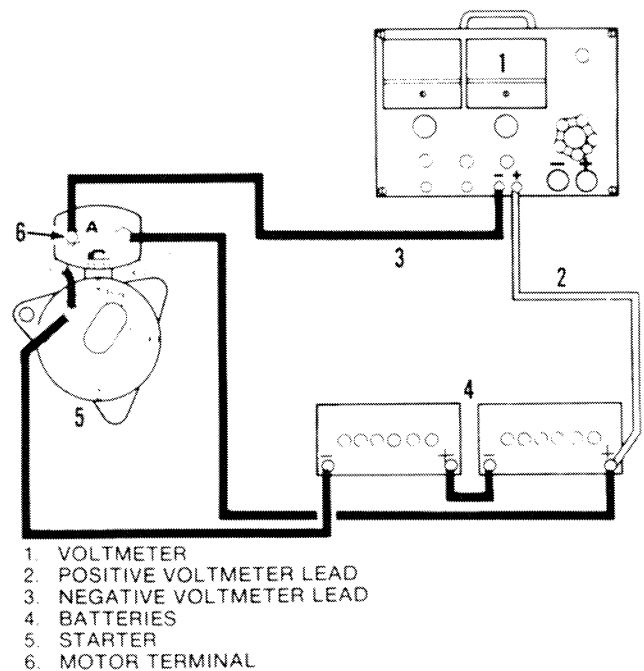

Figure 8-6. Test Connections for Positive Battery Cable with Starter Solenoid
- (2) See figure 8-6. Connect the negative voltmeter lead to the Motor terminal (A) on the starter solenoid.
- (3) Connect the positive voltmeter lead to the positive battery post of the right battery.
- (4) Pull out the fuel shutoff control until the fuel shutoff control stops moving.
- (5) Turn the IGN switch to the ON position.
- (6) Hold the START button in start position. Select the lowest range on the voltmeter. Continue to hold the START button while you read the indication on the voltmeter. Select the voltmeter range that will measure 24 volts. Turn the IGN switch to the Off position.
- (7) If the indication was 0.5 volt or less, do Test step f.
- (8) If the indication was more than 0.5 volt, do Test step g.